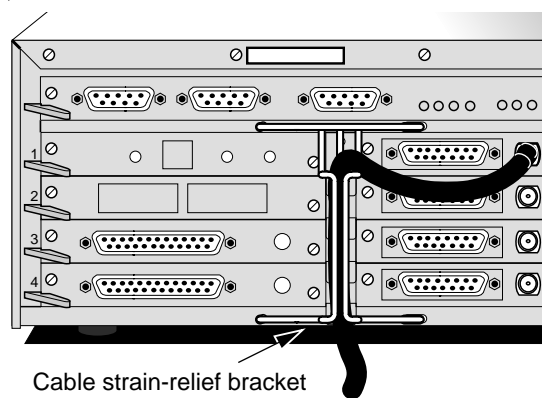

Figure 2-7 Routing Cables through the Strain-Relief Bracket on the 8-Slot Chassis
- 2 Route all cables from the I/O modules through the two arms of the bracket from top to bottom, as shown in Figure 2-7.